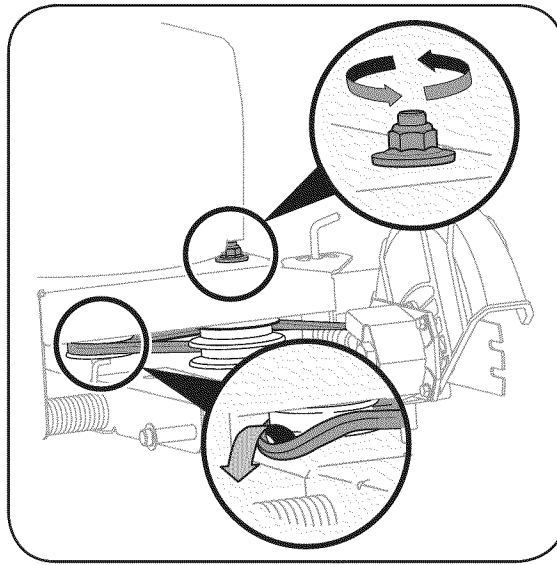

Figure 10
1. Working in front of the edger, loosen the flange lock nut on top of frame, allowing the idler pulley assembly to pivot slightly out from the frame. See Figure 10.
IMPORTANT: To aid in reassembly, note the orientation of the drive belt on the two idler pulleys and the engine flywheel pulley prior to performing the following steps. Refer to Figure 10.